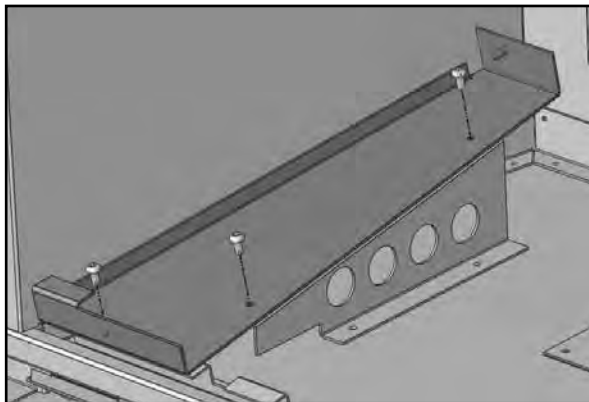

Figure 98: Installing Left Burner Cover Support.
7. Install the Left Burner Cover Support as shown in Figure 98. This bracket is installed using three (3) T-20 Torx screws supplied. Install the Right Burner Cover Support Right as you've done on the left side.